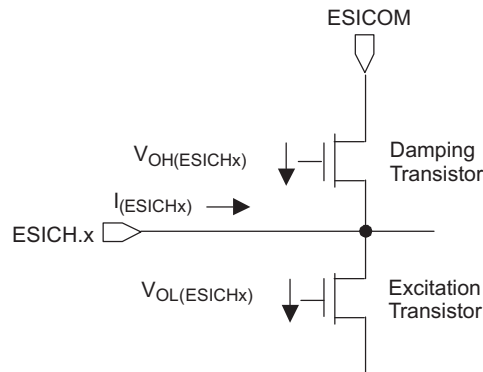

Figure 5-22. Voltage Drop Due to ON-Resistance
(1) ESICOM = 1.5 V, supplied externally (see Figure 5-22)